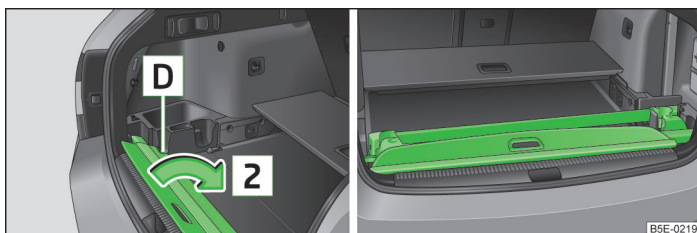

Fig. 91 Stowing roll-up luggage compartment cover/stowing roof racks and roll-up luggage compartment cover properly
- Insert the front part of the roll-up luggage compartment cover under a portion of the side trim **D** » Fig. 91 on the left.
When stowing **both** the roof rack and the roll-up luggage compartment cover, the rear part of the roll-up luggage compartment cover should overlap the rear roof rack » Fig. 91.